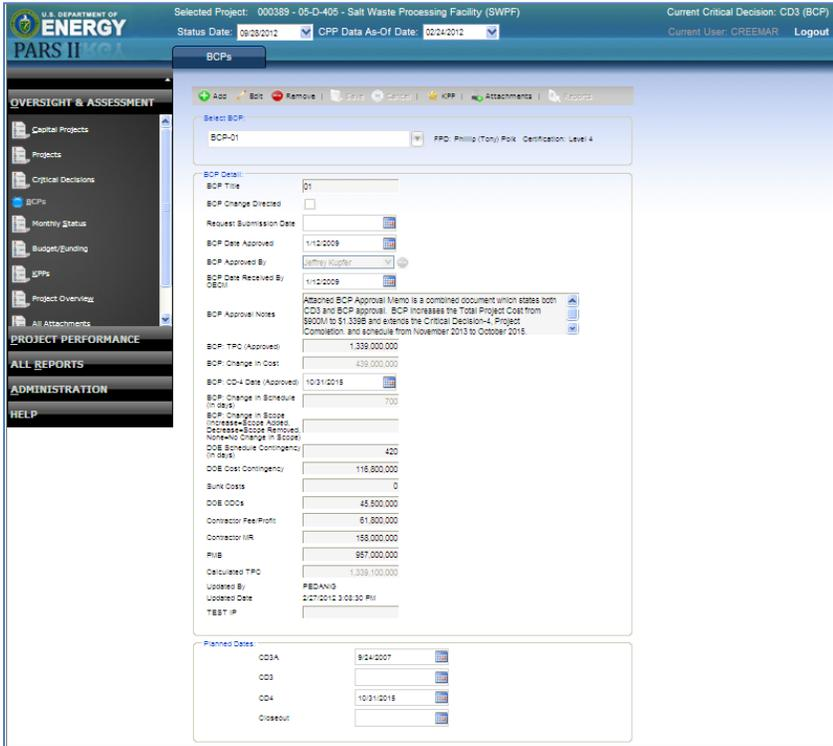

Figure 87 BCP Tab
5. Select the  button and the table will be open for data entry as shown in Figure 87.